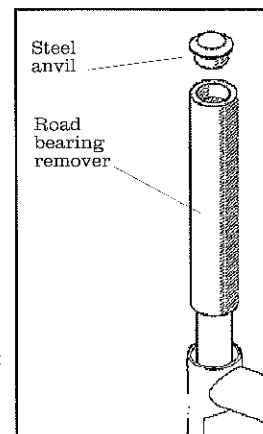

Fig. 21
6. With the fork resting in the headtube, slide the thick-walled end of the **road bearing remover** over the steerer (Fig. 21).